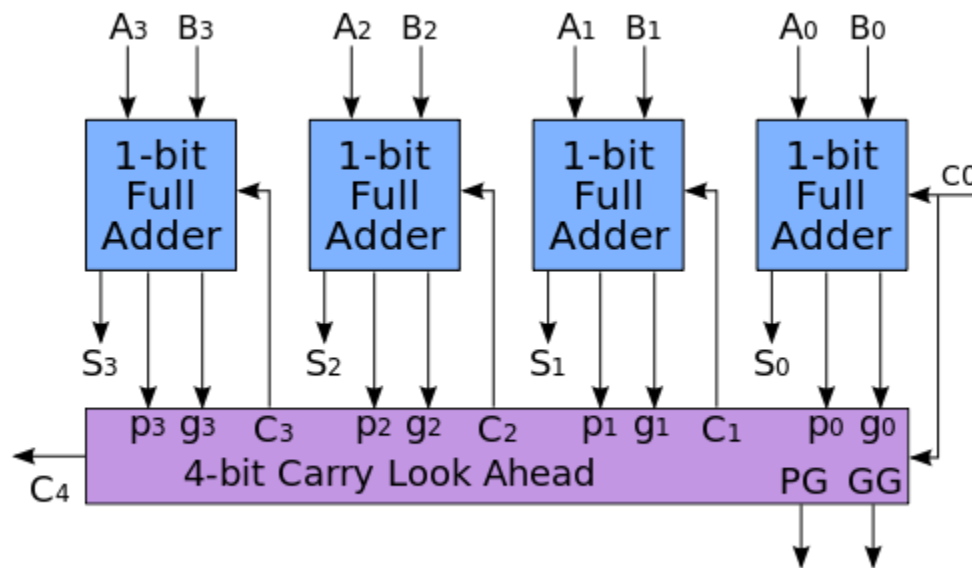

Fig.3.14: Carry look-ahead adder
- Carry look-ahead adder (CLA adder) shown in fig.3.14 is based on the fact that a carry signal will be generated in two cases: